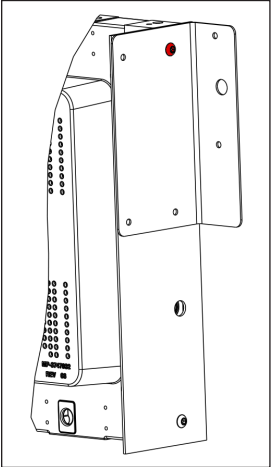

Figure 7: Position Mounting Bracket
2. Position the mounting bracket on the border, aligning the top-right hole of the bracket with the hole on the border where the screw was removed in **Step 1**. Use a 1/4" T-25 hex bit (TH-1118) to secure the M5-0.8 x 10 mm machine screw (HC-3809581) from **Step 1** into the hole. Refer to **Figure 7**.